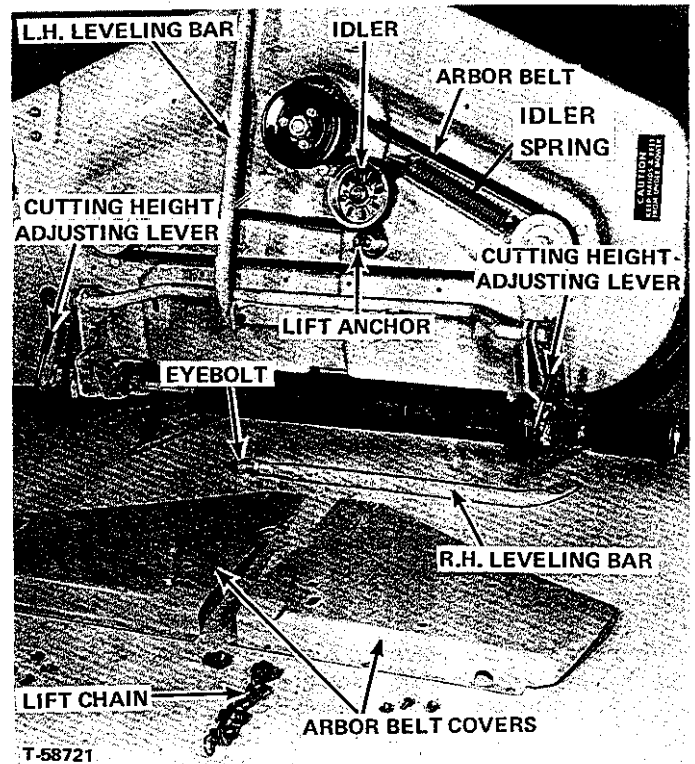

Figure 12.
2. See Figure 12. To adjust, turn the eyebolts on the front end of the leveling bars.
3. Remove the right hand leveling bar to permit lifting right arbor cover over the lift anchor (Figure12). 13
4. Unhook idler spring from idler and remove belt from arbor pulleys. Install new belt as shown in Figure. 12. 3